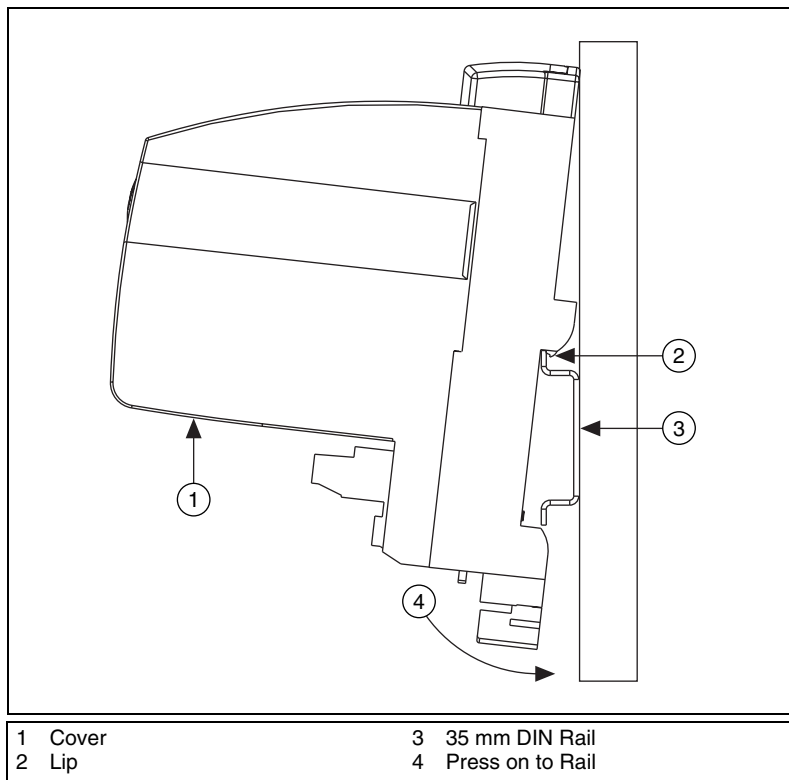

Figure 2-2. Mounting the FBUS-HSE/H1 LD on a DIN Rail
2. Hook the lip on the rear of the FBUS-HSE/H1 LD onto the top of a 35 mm DIN rail and press the FBUS-HSE/H1 LD down onto the DIN rail, as shown in Figure 2-2.